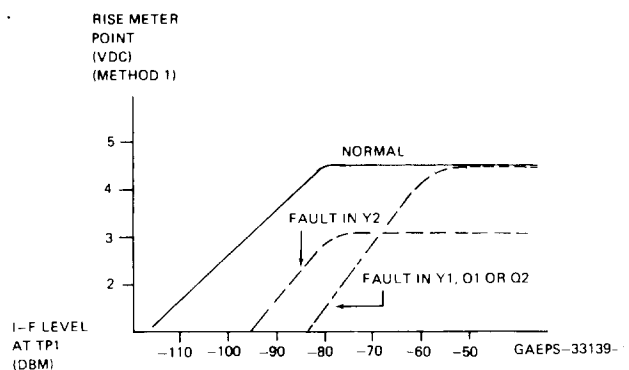

Figure 9. I-F Gain Test Graph
- Figure 9 — I-F Gain Test Graph
Step 3. Referring to Figure 9, plot a similar graph showing the dc voltmeter readings obtained; compare the plotted graph with the graph shown in the figure.
If an abnormal result is obtained, Figure 9 also isolates the fault to a specific component(s).